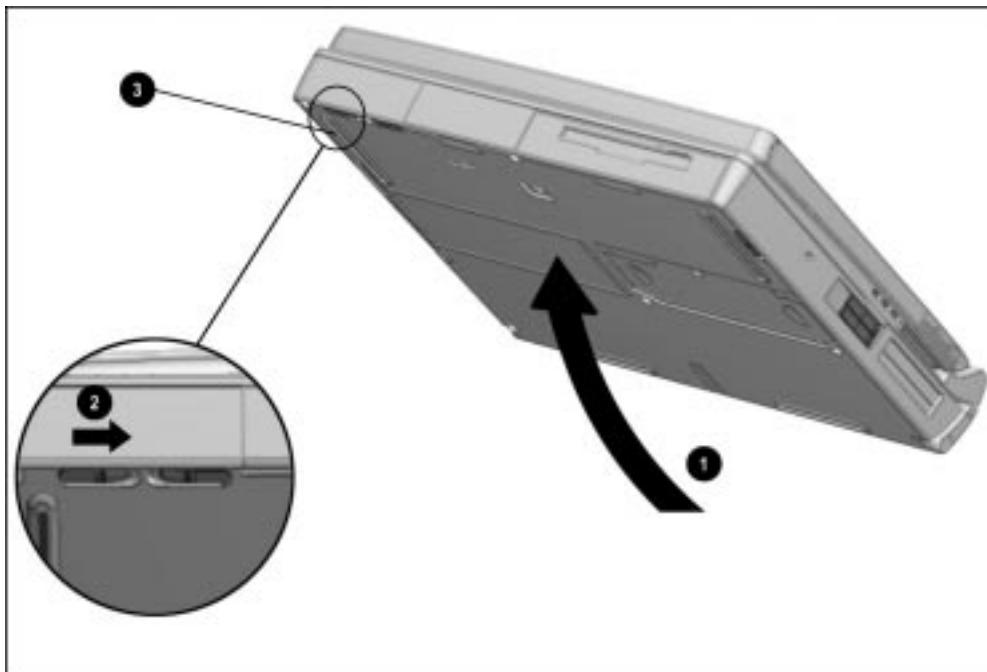

Figure 5-8. Releasing a Battery Pack from the Battery Bay
2. Tilt the computer at an angle ❶ so the bottom of the computer is accessible (Figure 5-8).
3. Slide the battery release latch to the right ❷.
4. Grasp battery pack using the recess ❸ beneath the battery bay.